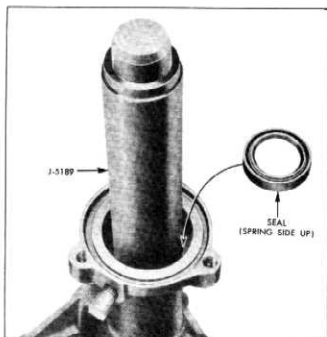

Fig. 41—Installing Housing Seal
- Use "Seal" end of tool J-5189 to press new seal down to shoulder in housing (fig. 41). The lip and spring of seal are up toward shoulder of tool.